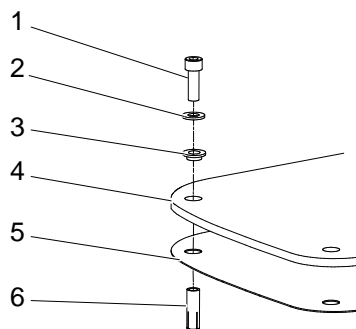

Fig. 4-64 *Temporarily attachment*
7. Mount the insulation washer (5) between the plate and the floor.
9. Drill just 1 hole (C) in accordance with Fig. 4-64 *Temporarily attachment*. The 3 remaining holes shall be drilled after the adjustment.